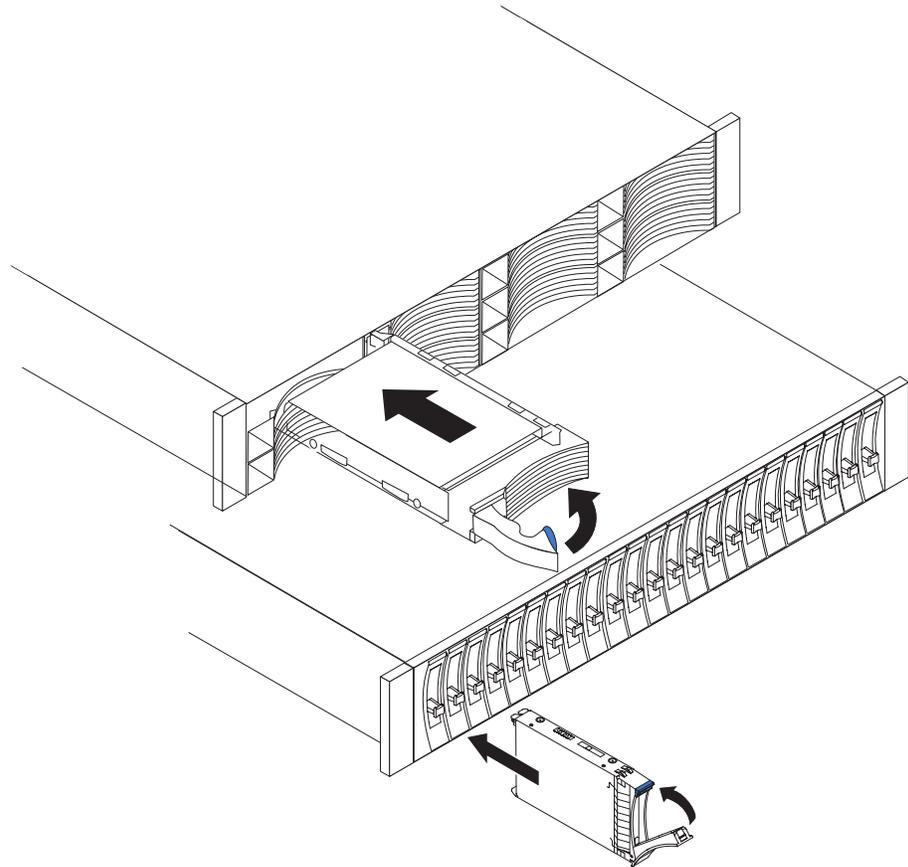

Figure 17. Installing a drive
4. Install the drive in the empty bay as shown in (Figure 17).